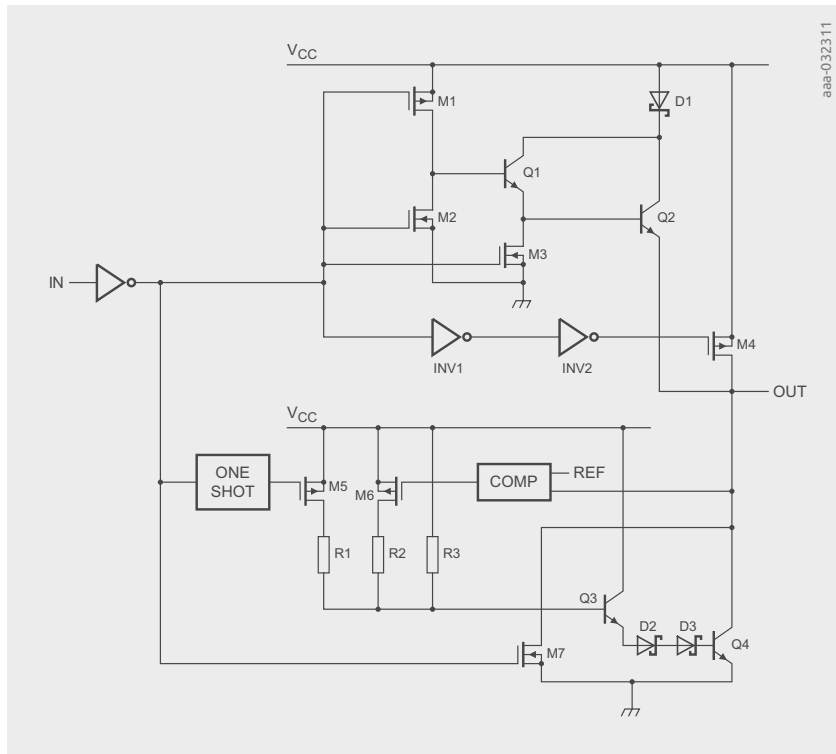

Figure 9.8 | Simplified ALVT circuit
Figure 9.8 gives a simplified version of the internal buffer circuit, with the output enable function (OE) and other details (some of which will be discussed later) omitted. Its purpose is to show the basic aspects of the internal circuit so that applying LVT circuits is made easier and certain aspects of the datasheet are clarified. The input uses a small CMOS inverter stage with a low input capacitance, so no drive energy is needed. The output LOW is bipolar (Q4) with a small (M7) in parallel, and the output HIGH is a combination of a bipolar transistor (Q2) and PMOS (M4) to pull the output to the full  $V_{CC}$ . Bipolar transistors introduce less bounce than pure CMOS. The NMOS M7 is very small and therefore does not affect ground bounce. The PMOS transistor M4 is delayed via the inverters INV1/INV2 so that it becomes active somewhat later than Q2 with only a minimal effect on  $V_{CC}$  bounce. This construction enables the best possible trade-off between speed and bounce.